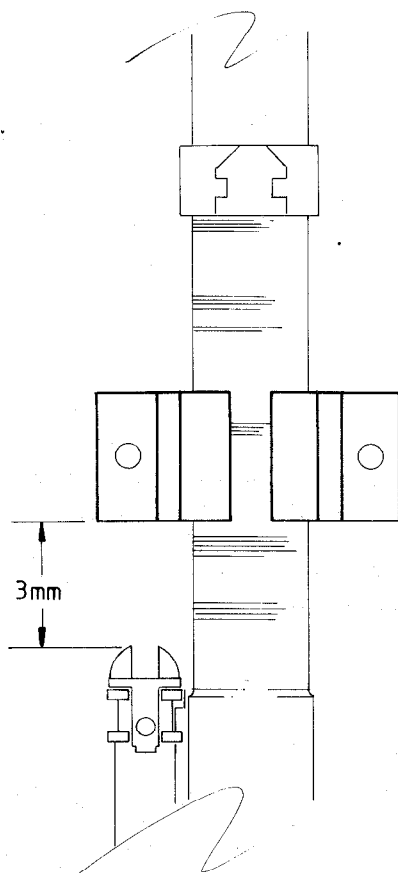

FIG 5 - GAS PLUG CLEARANCE
15. Bolt the retaining bracket to the existing cabin brackets using the nuts and bolts retained in paragraph 8. Ensure a 3mm clearance exists between the gas plug of the AUSTSTEYR rifle and the plastic rifle clip as shown in Fig 5.